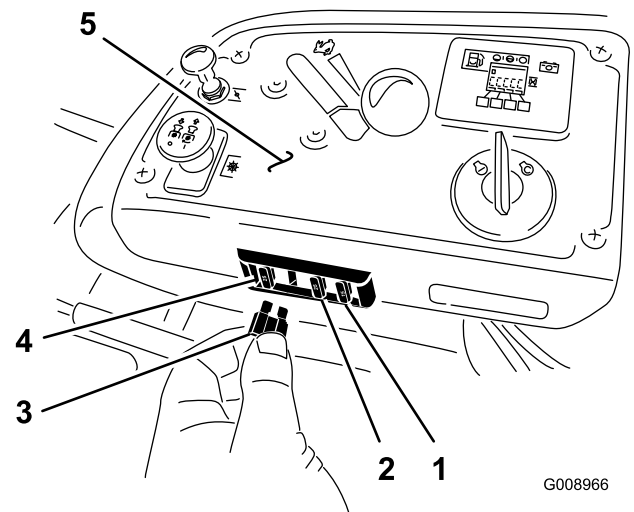

Figure 63
1. The fuses are located on the console to the right of the seat (Figure 63).
3. Install a new fuse (Figure 63).